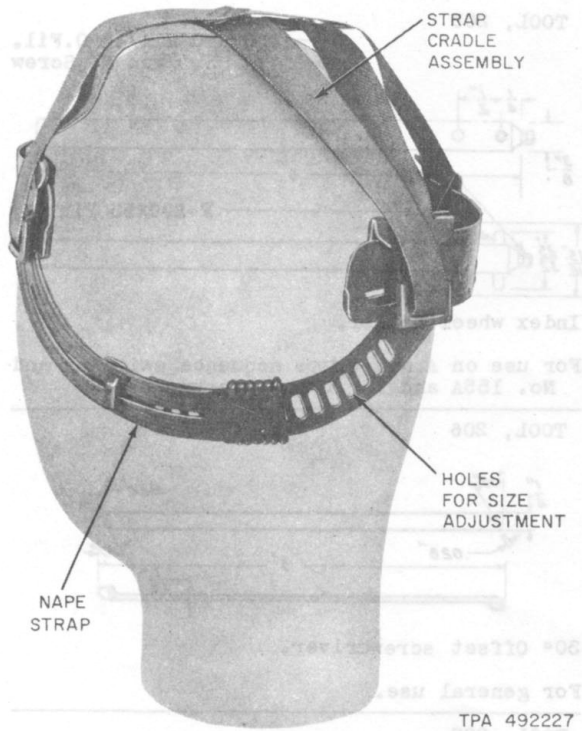
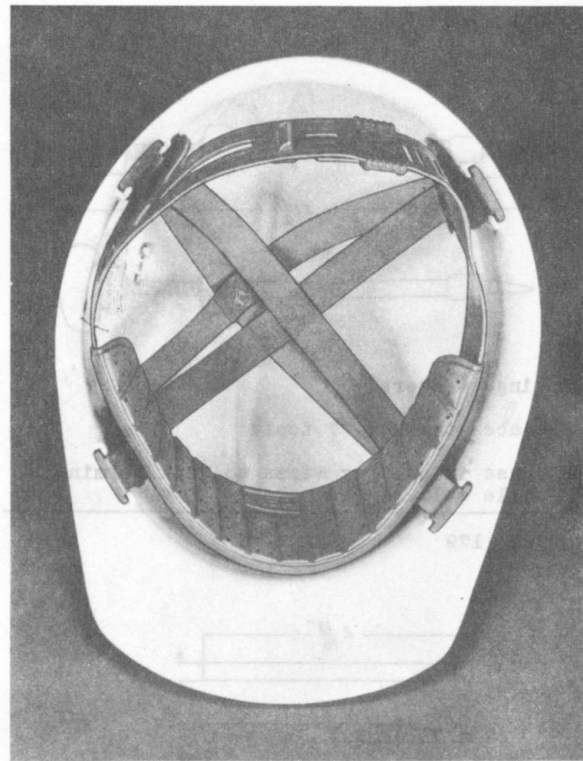

Fig. 2—Suspension for Shockgard Mark II Safety Headgear
Fig. 3—Shockgard Mark II Safety Cap—View Showing Suspension
2.03 The suspension for the Shockgard Mark II safety hat and safety cap consists of an adjustable molded plastic band with a sweatband and straps attached. The straps are in a double-strap arrangement that ensures proper clearance between the top of the head and the inside of the hat or cap crown. A nape strap is provided as an integral part of the suspension. A view of the suspension removed from the headgear to illustrate the size adjustment and nape strap is shown in Fig. 2. A view of the suspension mounted in the cap is shown in Fig. 3.